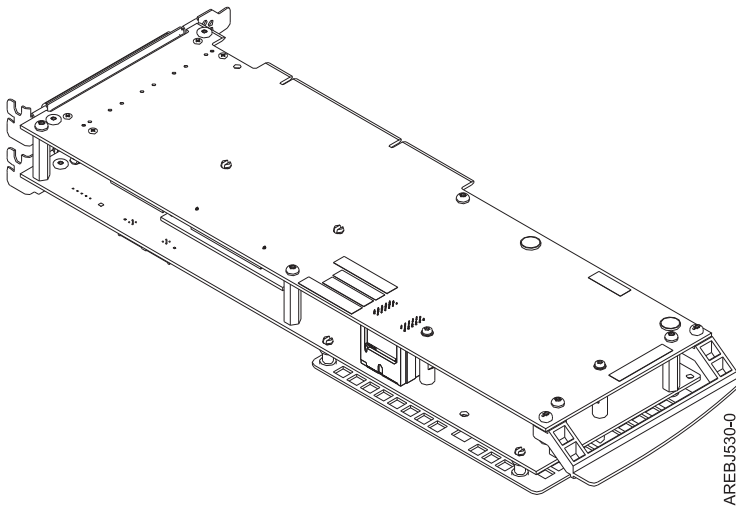

Figure 30. 572F/575C card set adapter
2. Place the 572F/575C card set adapter on an ESD protective surface and orient it as shown in Figure 30.